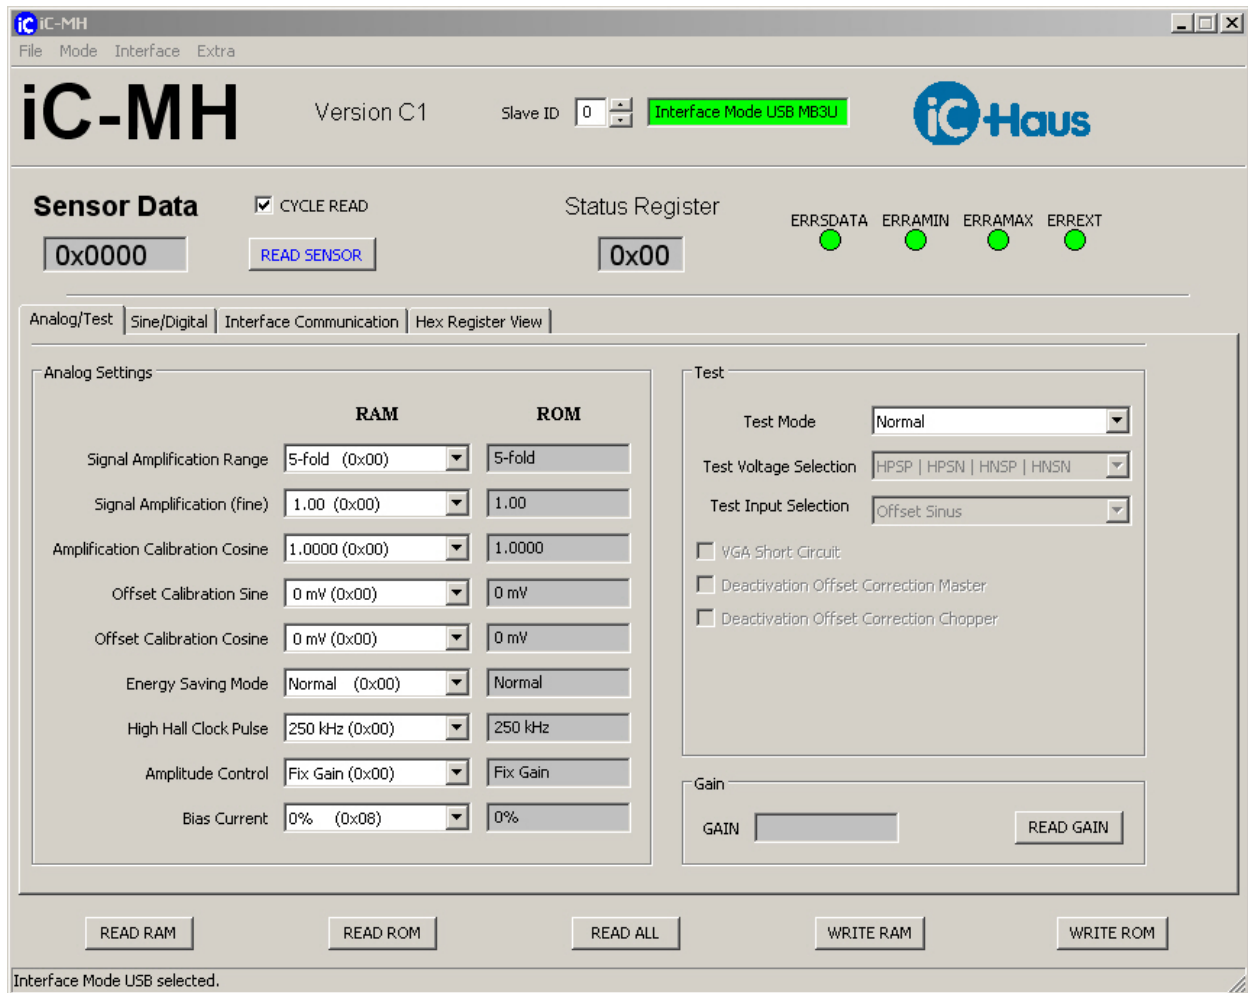

Figure 5: Evaluation software start-up window
3. After installation the executable MH1SO_gui_xx.exe will be available in the selected working directory. Figure 5 shows a screenshot of the evaluation software.